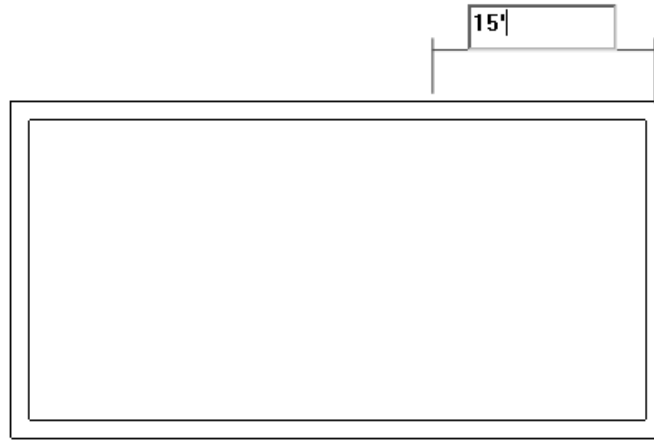
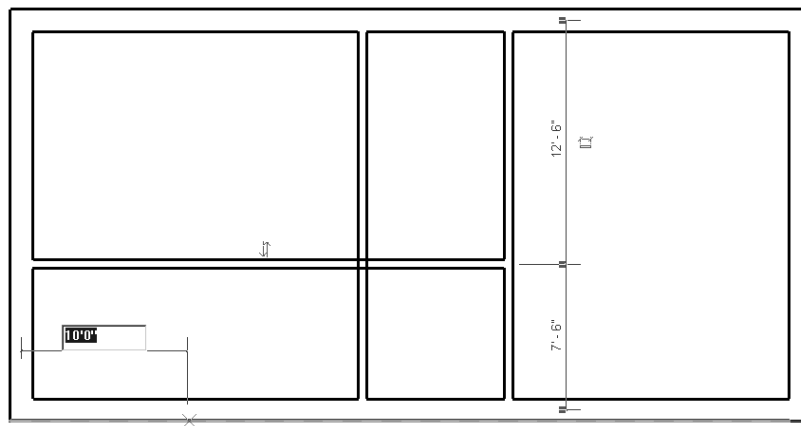

Figure 3-52 Specifying the distance for starting the first interior wall segment
Figure 3-58 Sketching the interior walls of the bath
- Sketch the interior walls based on the given parameters, refer to Figures 3-52 through Figure 3-58.
- Enter **15'0"** from the keyboard, as shown in Figure 3-52. Now, press ENTER; the starting point of the first interior wall is specified.
5. Similarly, move the cursor near the lower left corner and then move it horizontally toward the right. When the temporary dimension and the intersection object snap appears, enter the value **10'0"**, as shown in Figure 3-58, and then press ENTER.